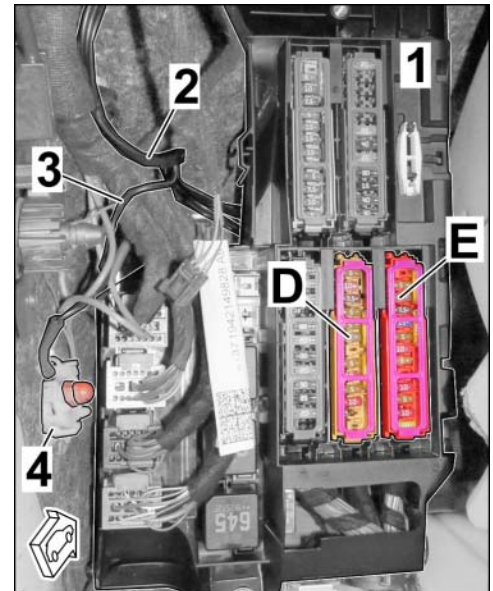

Figure 15
3.2.3 Connect power supply as shown in the table (⇒ *Figure 15*).
3.2.5 Protect the front camera power supply with new fuses (⇒ *Figure 15 -D6 and E3-*).